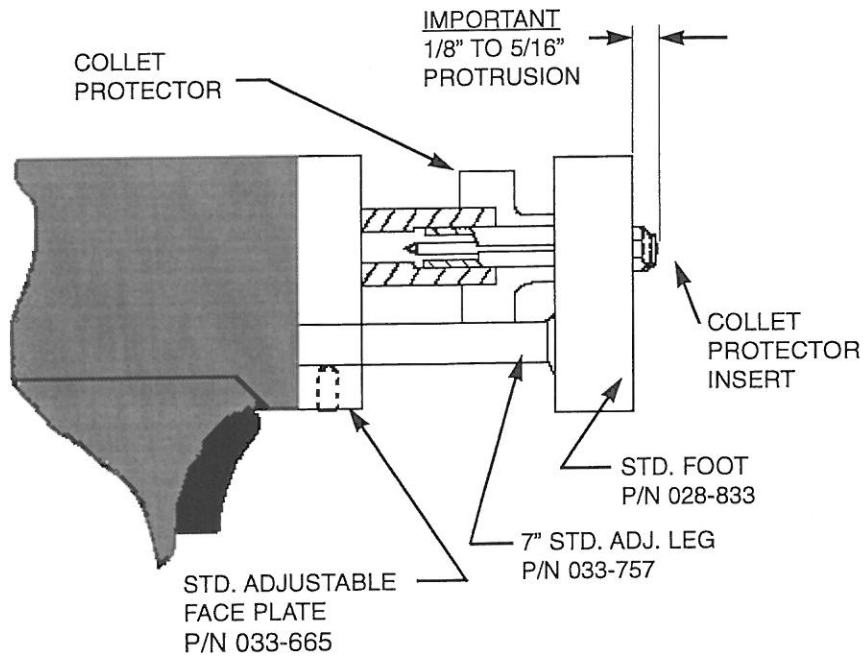

Figure 6-2 Gun Setup w/ Collet Protector and Standard Legs
6.4 Gun Set-up For Weld Pins With Collet Protector and Standard Legs (see Figure 6-2)